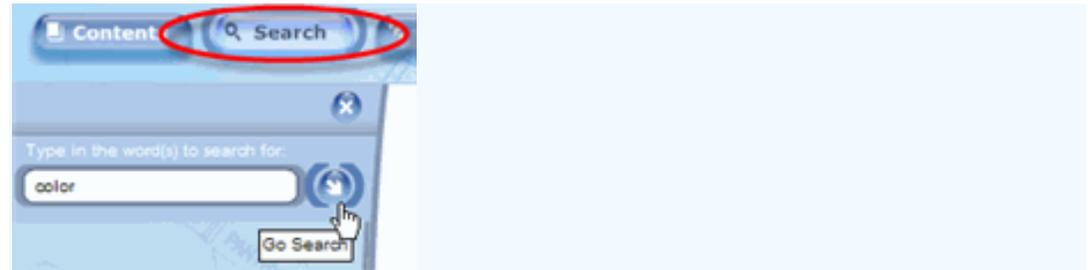

Figure-04
- ◆ If you cannot locate the subject information you are looking for in the **TOC**, click the **Search** button at the top of the **IE** page. Type the information you are searching for and then press the **<enter>** key or click the **Go Search** button (*Figure-04*). When the information is located, click the **Contents** button. You should notice the topic information you searched for is highlighted, revealing where the subject material is located.